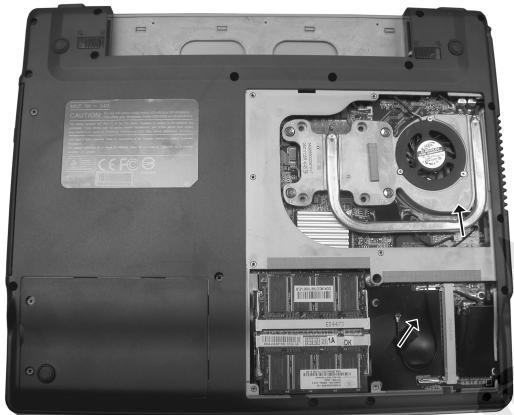

Figure 2-16 Separate the antenna
2. Separate the antenna from the system board. (Figure 2-16)